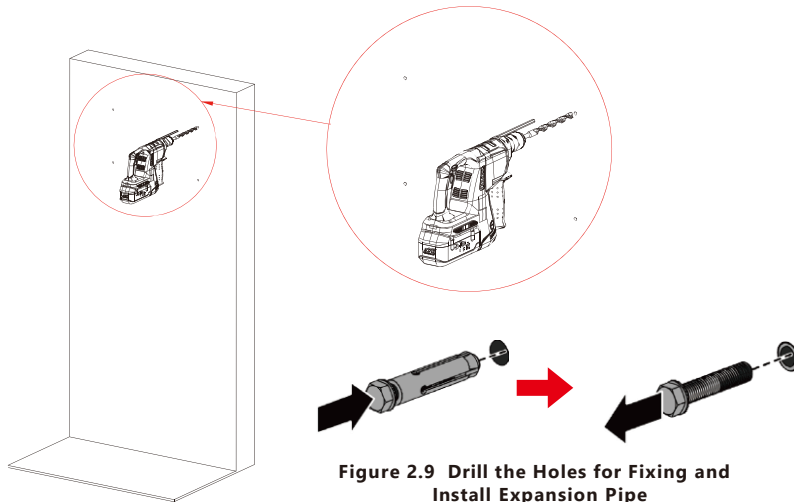

Figure 2.9 Drill the Holes for Fixing and Install Expansion Pipe
**Step 4** Drill holes at the position using a percussion drill (M12 drill, depth of hole: 70mm). After drilling, put the 4 expansion bolts into the hole and take out the expansion screws as shown in Figure 2.9.